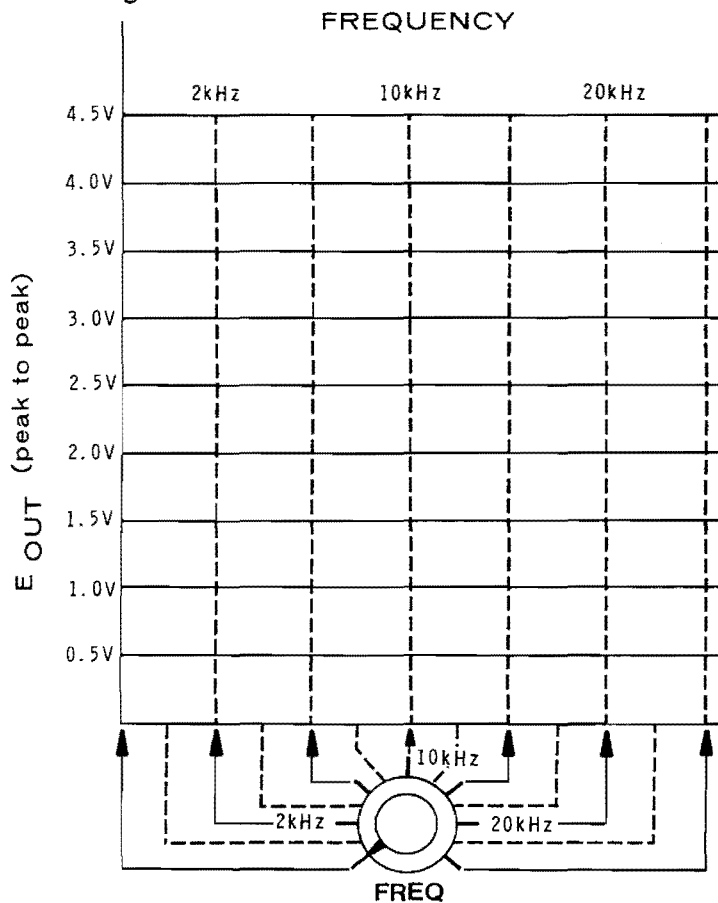

Figure 3-79
12. Set the Generator FREQUENCY control fully counterclockwise. Note the value of  $E_{OUT}$ . Plot this voltage on the far left vertical line of Figure 3-79.
13. Using the procedure outlined earlier in steps 5, 6, and 7, plot the response curve in Figure 3-79.